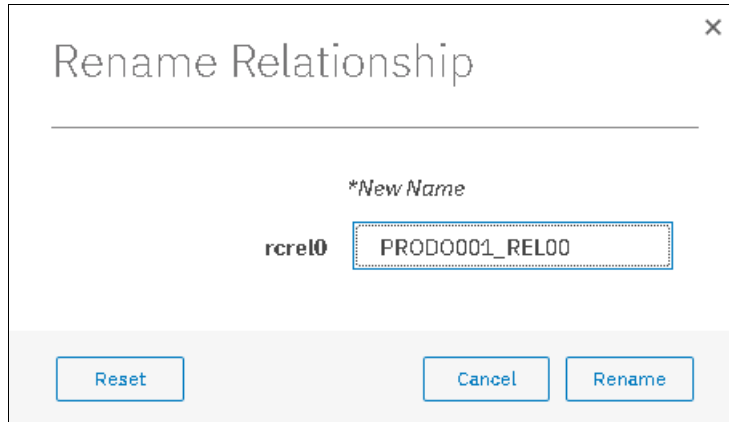

Figure 10-102 Renaming a remote copy relationship
3. In the Rename Relationship window, enter the new name and click **Rename**, as shown in Figure 10-102.